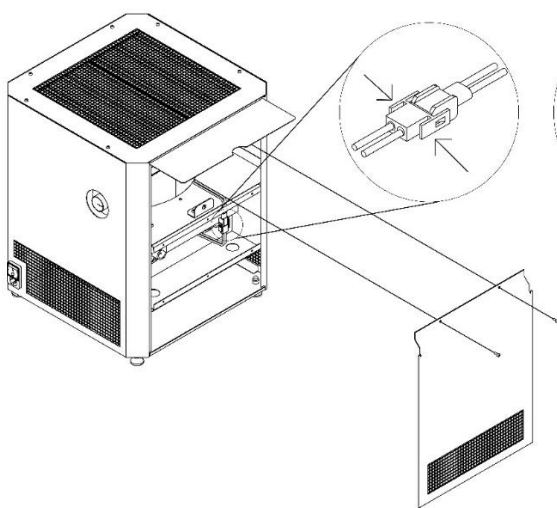

Figure 7
2.) Remove access panel by loosening (2) screws with a 2.5 mm Allen wrench. See Figure 7.
3.) Disconnect 2 pin MOLEX connector providing power to catalyst panel. See Figure 7.
13.) Reconnect 2 pin MOLEX Connectors providing power to catalyst panel. See Figure 7.
14.) Reattach access panel with (2) screws. Tighten screws with an Allen wrench. See Figure 7.
12.) Reconnect 2 pin MOLEX connector providing power to catalyst panel. See Figure 7.
13.) Reattach access panel with (2) screws. Tighten screws with an Allen wrench. See Figure 7.